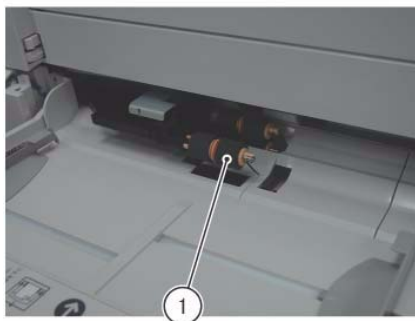

Figure 2 Remove the Nudger roll
4. Remove the Nudger Roll. (Figure 2)